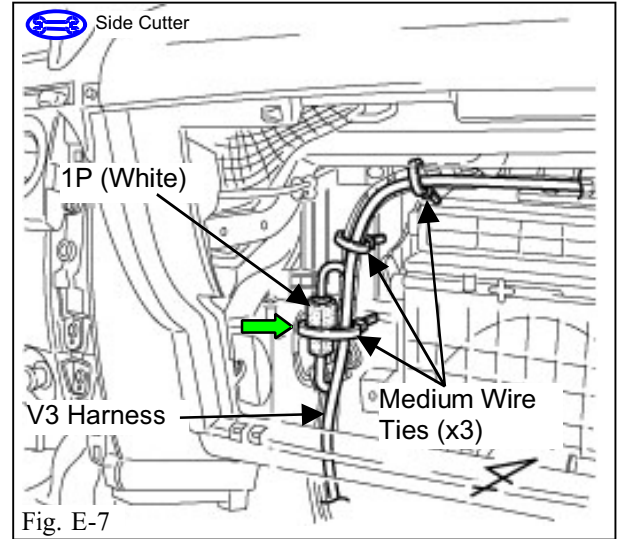

Fig. E-7
7. Plug in the V3 harness' white 1P connector to the vehicle harness' white 1P connector. (Fig. E-7)
8. Secure the 1P connectors to the vehicle harness with one medium wire tie. (Fig. E-7)
9. Secure the V3 harness to the vehicle harness with two medium wire ties. (Fig. E-7)